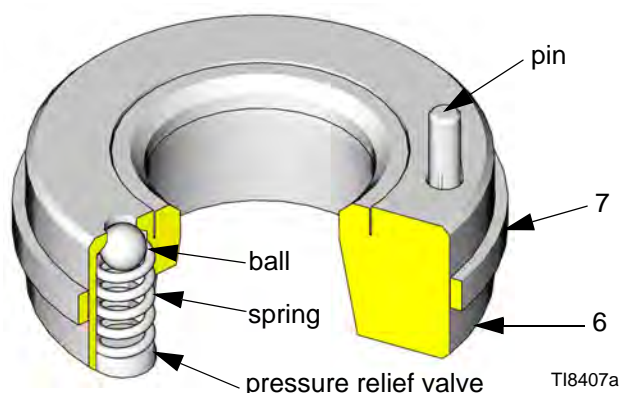

FIG. 7. Inlet Seat with Pressure Relief Valve
2. Use the **text cast into the inlet fluid housing (15)** as a guide to install the relief valve inlet seat (6★). The pin (See FIG. 7) on the seat must point into the inlet fluid housing (15). This pin limits the positioning of the seat (6★), ensuring that the vent hole is not blocked by part of the housing.